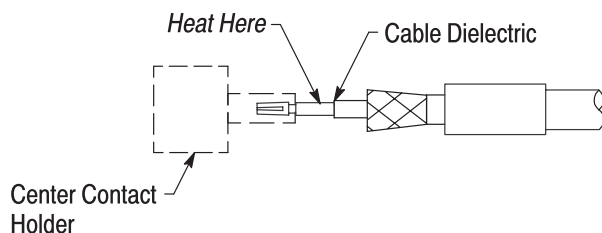

Figure 4
4. Place the center contact into the center contact holder. Heat the center contact, then push it over the cable center conductor until it rests firmly against the dielectric. See Figure 4. Remove excess solder.